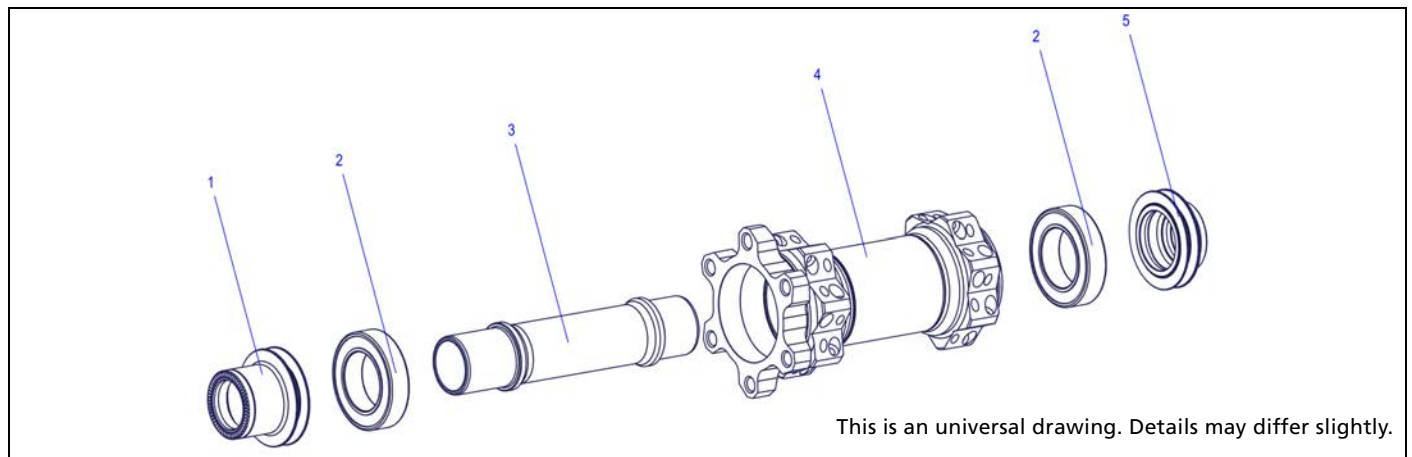

Figure 4-1: 180, 240 front wheel hub
1. Clamp one of the adapters (fig. 4-1/1, 5) into a vice.
1. Slide the disassembly tool onto the axle (fig. 4-1/3).
2. Tap the first bearing (fig. 4-1/2) out of the hub shell using the disassembly tool and a hammer.
5. Tap out the second bearing (fig. 4-1/2) using the disassembly tool and a hammer.
3. Put the axle (fig. 4-1/3) onto the mounting tool.
5. Slightly grease the bearing (fig. 4-1/2) and put it onto the disc side with the colored side facing outwards.
10. Slightly grease the bearing (fig. 4-1/2) and put it with its colored side facing outwards onto the non disc side.
1. Grease the bearings and the inner surface of both adapters (fig. 4-1/1, 5).
2. Put both adapters (fig. 4-1/1, 5) onto the hub by hand.